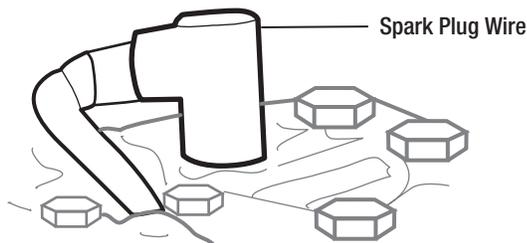

Figure 1-18
- Remove spark plug wire and secure from spark plug. See Figure 1-18